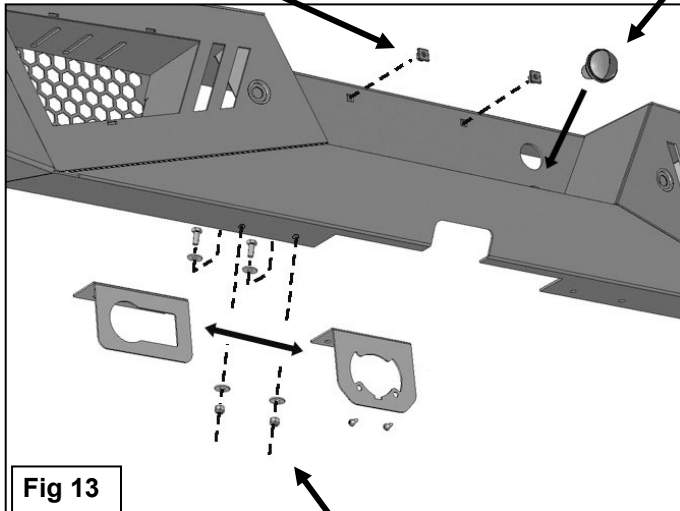

Fig 13
- 9. Use the included (2) push-in Plastic Nuts to attach the rear license plate to the (2) holes in the Bumper, **(Figure 13)**. Insert the License Plate Light into the hole in the bumper, **(Figure 13)**. Attach the License Plate Light wire to the end of the factory license plate light wire harness.
- 10. Select the correct mounting plate for your trailer harness plug. Attach the mounting plate to the bottom of the bumper with (2) 6mm Hex Bolts, (4) 6mm Flat Washers and (2) 6mm Nylon Lock Nuts, **(Figure 13)**. **NOTE:** On 2011-14 models, use the included (2) Self Tapping Screws to attach the trailer plug to the Bracket, **(Figure 13)**.